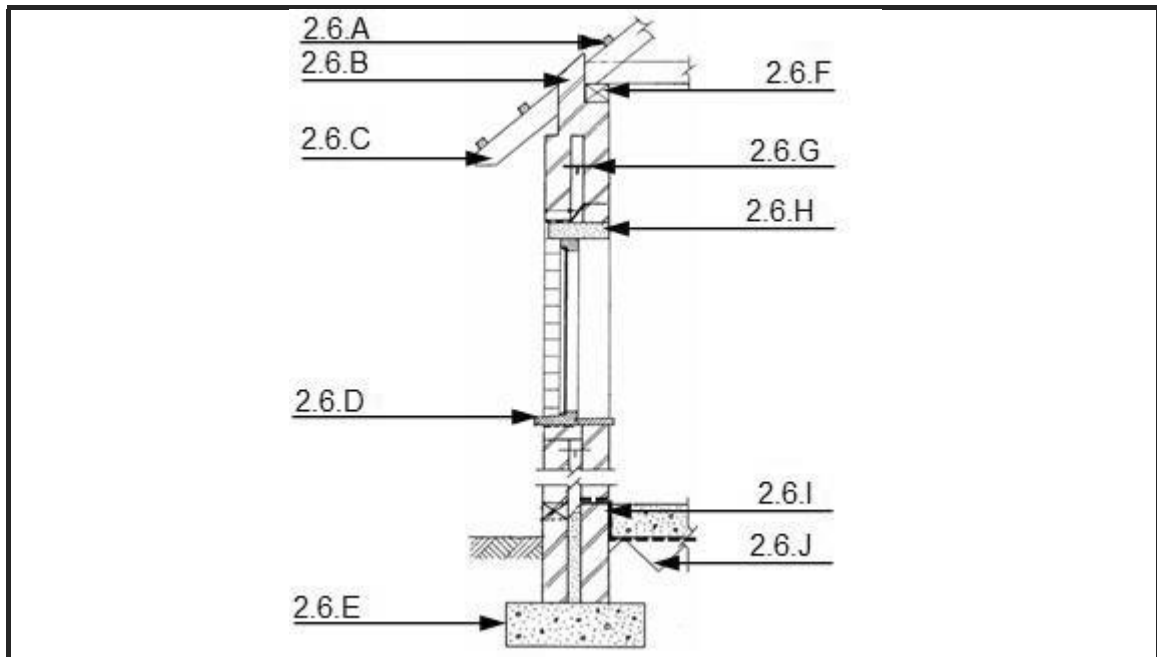

FIGURE 3.6
3.6 Answer the following questions with regard to the elevation in **FIGURE 3.6**.